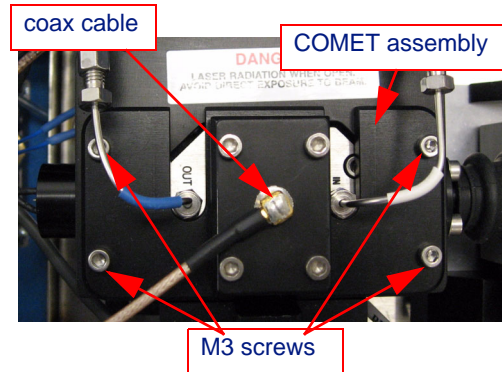

Figure 5-1: Flow Cell with COMET Option
**If the COMET option is Installed, see Figure 5-1.**